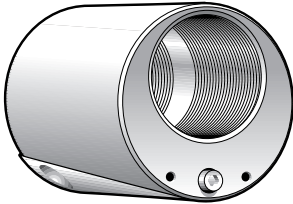

Fig. 4
2. Once the assembly is free, use a bottom bracket pin tool such as the Park SPA-1 (green) to rotate the eccentric until proper chain tension is obtained. Secure the assembly in its new position, centered in the frame, by tightening the 4mm allen bolt clockwise to 60 In-Lbs (6.75 Nm.) See Fig. 4.